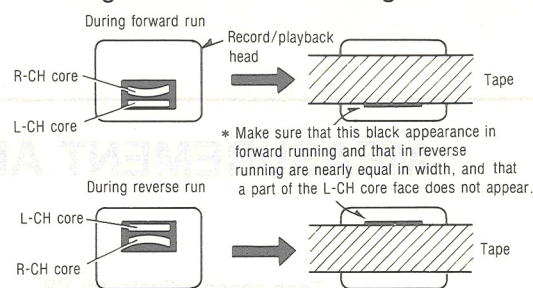

Fig. 5
4. Install a test tape (tape with mirror: QZZCRD) on the recorder; place the recorder in the FORWARD PLAY mode. Make fine adjustments of the erase head height and tape guide height adjustment screws as necessary, to attain on the recording/reproducing head face the tape position shown in Fig. 5.
5. Run the tape in the forward play mode and check it for zigzag running. (Shown in Fig. 5)
7. Repeat steps 5 and 6 two or three times and verify that the tape position shown in Fig. 5 is ensured.